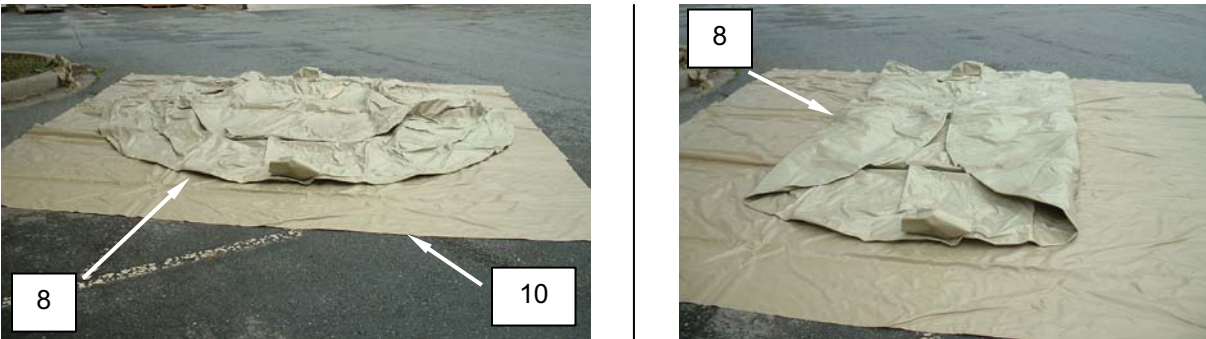

Figure 4. Prepare the 3000 Supply Water Tank for Movement.
13. After the tank (**Figure 4, Item 8**) has been dried, lay out the tank ground cloth (**Figure 4, Item 10**) with the ties down, and then lay out the tank in the center of the ground cloth. Fold the sides of the tank to touch as shown in Figure 4.